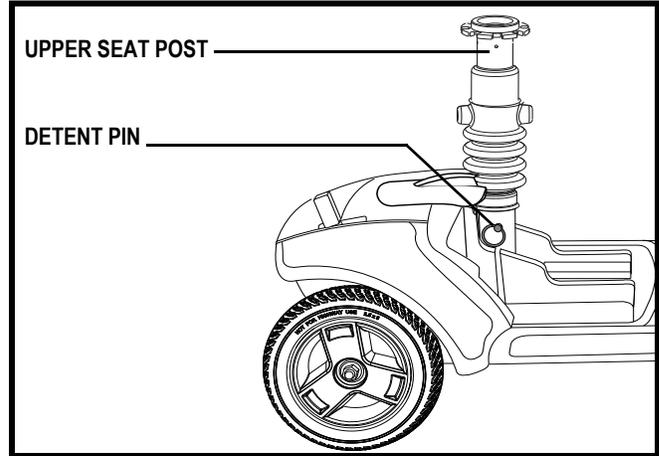

Figure 17. Seat Height Adjustment
The seat can be repositioned to different heights. See **figure 17**.
2. Remove the upper seat post from the Travel Scooter by removing the detent pin from the lower portion of the seat post, then lifting the post straight up and off the Travel Scooter. See **figure 17**.